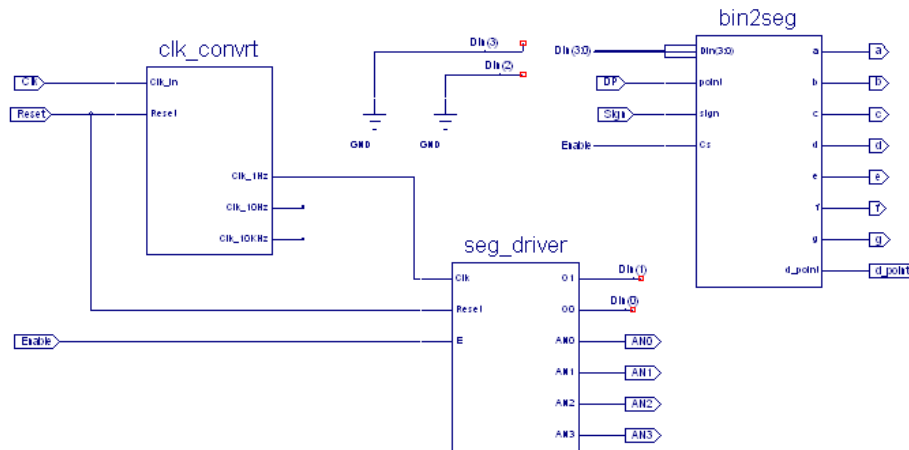

Figure 12
12. Create a schematic file similar to Figure 12 for testing most of the components you have designed so far.